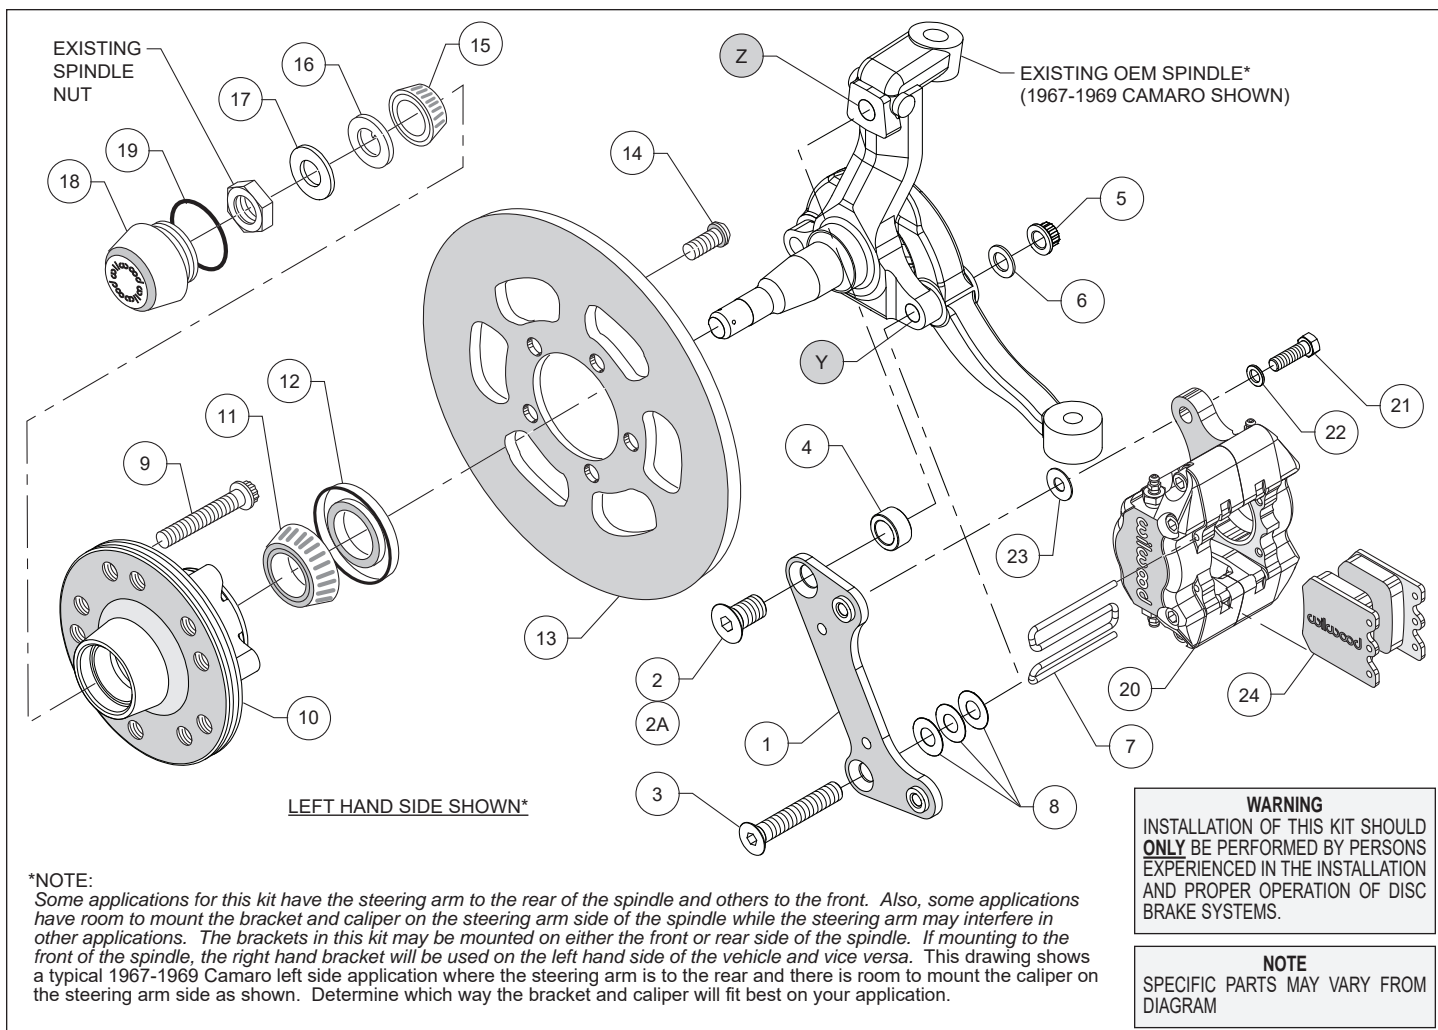
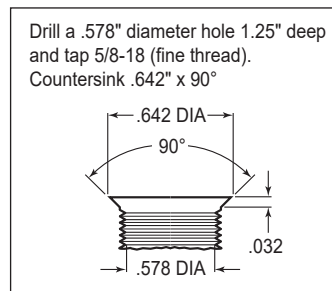
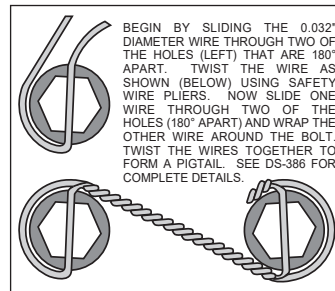
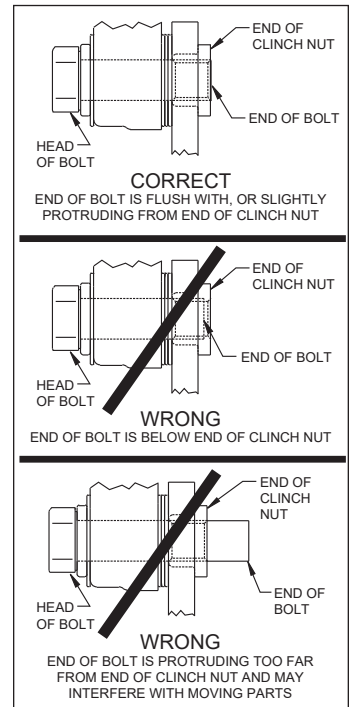

Figure 1. Typical Installation Configuration
Figure 3. Drill and Tap Detail
Figure 4. Safety Wire Diagram
Figure 5. Clinch Nut Engagement Diagram
Assembly Instructions (numbers in parenthesis refer to the parts list, on the preceding page and Figure 1): **CAUTION:** All mounting bolts must fully engage clinch nuts. Be sure to check that all bolts are either flush or protruding through flanged side of clinch nut after shimming, Figure 5.
•**NOTE:** Some applications for this kit have the steering arm to the rear of the spindle and others to the front. Also, some applications have room to mount the bracket and caliper on the steering arm side of the spindle while the steering arm may interfere in other applications. The brackets in this kit may be mounted on either the front or rear side of the spindle. If mounting to the front of the spindle, the right hand bracket will be used on the left hand side of the vehicle and vice versa. Figure 1 shows a typical 1967-1969 Camaro left side application where the steering arm is to the rear and there is room to mount the caliper on the steering arm side as shown. Determine which way the bracket and caliper will fit best on your application.
•**NOTE:** Some spindles in this year range may require the following modifications (reference Figure 1 and Figure 3): Top anchor pin hole (Z) must be drilled and tapped to the dimensions as outlined in Figure 3. The lower bolt hole (Y) in the spindle used to mount the new caliper bracket, and the mating steering arm hole, must be enlarged to .50" by drilling. It is recommended these modifications be performed by a qualified machinist.
•Install wheel studs (9) into the hub (10), Photo 1. Torque to 77 ft-lb. **NOTE:** There are two five lug patterns in the hub (5 x 4.50 and 5 x 4.75). Ensure the correct hub stud pattern is being used to fit the wheel application.
•Pack the large inner bearing cone (11) with high temperature disc brake bearing grease (available from your local auto parts store) and install into the backside of the hub (10), Photo 2.
•Install the grease seal (12) by pressing into the backside of the hub (10), flush with the end of the hub, Photo 2.
•Orient the rotor (13) and the hub (10) as shown in Figure 1. Attach the rotor to the hub using bolts (14). Using an alternating sequence, apply red *Loctite*® 271 to the threads, and torque to 45 ft-lbs.
•**Disc Brake Spindle Application Only:** Follow the instructions below, but instead use bolt (2A), and spacer (4) in the upper bolt hole location, Figure 1.
•Orient the caliper mounting bracket (1) as shown in Figure 1 and Photo 3, and install using bottom bolt (3), washer (6), and nut (5), Figure 1. Initially place three .032" thick shims (8) between the bracket and spindle. Install the upper bolt (2). Temporarily tighten bolts. **NOTE:** *The bracket must fit squarely against the mounting surfaces on the spindle.* Inspect for interference from casting irregularities, machining ridges, burrs, etc. Temporarily install the new hub and rotor assembly. Check that the bracket is aligned parallel to the rotor, Photo 4. If not, adjust by adding or subtracting shims (8) on the lower bolt between the bracket and spindle, Figure 1. Once the bracket alignment is correct, remove the upper bolt (2 or 2A), apply red *Loctite*® 271 to the bolt threads, and torque to 120 ft-lb. Torque the lower lock nut to 65 ft-lb.
•Pack the small outer bearing cone (15) with high temperature disc brake bearing grease and install into hub (10). Final install the hub/rotor assembly onto the spindle. Secure using spindle washer (16) and OEM spindle nut. Adjust bearings per OEM specifications. Install saved OEM nut lock (if any) and a new cotter pin (not included). **NOTE:** *Because of a tolerance variation among spindles, it may be necessary to install a shim washer (17) between the spindle washer (16) and the spindle nut if the spindle nut will not tighten down all the way.*
•Screw dust cap (18) into hub (10). Friction created by the o-ring (19) on the dust cap keeps it from unscrewing. **NOTE:** *The O.D. of the existing OEM spindle washer may be larger than the I.D. of the dust cap not allowing it to seat against the hub face. Therefore, use the spindle washer (16) supplied with the kit instead of the OEM washer.*
•**NOTE:** *Please reference the caution statement at the beginning of the assembly instructions.* Mount the caliper (20) onto the caliper mounting bracket (1) using bolts (21) and washers (22), as shown in Figure 1. Initially place one .035" thick shim (23) on each bolt between the caliper and the bracket. Temporarily tighten the mounting bolts and view the rotor (13) through the top opening of the caliper. The rotor should be centered in the caliper. If not, adjust by adding or subtracting shims (23) between the bracket and the caliper. Always use the same amount of shims on each of the two mounting bolts. **NOTE:** *The end of each bolt must be flush with or slightly protruding from the head of the clinch nut, as shown in Figure 5.* If necessary place spare shims (23) between washer (22) and caliper mounting ear to achieve the proper clinch nut engagement. Once the caliper alignment and clinch nut engagement are correct, remove the bolts one at a time, apply red *Loctite*® 271 to bolt threads, and torque to 40 ft-lb. For an added measure of security, the bolts may be safety wired using standard 0.032 inch diameter stainless steel safety wire as shown in Figure 4. Refer to Wilwood's data sheet DS-386 (available at www.wilwood.com/Pdf/DataSheets/ds386.pdf) for complete safety wire installation instructions.
•Install the disc brake pads (24) into the caliper, with the friction material facing the rotor (13), and secure in place using pad clip retainer (7).